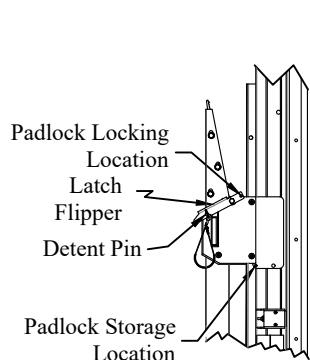

Figure 13: Step 5 & 6.
- Step 5. Unlock and remove the latch padlock. Place the padlock in storage location (Figure 13).
- Step 6. Remove the detent pin from latch flipper (Figure 13).